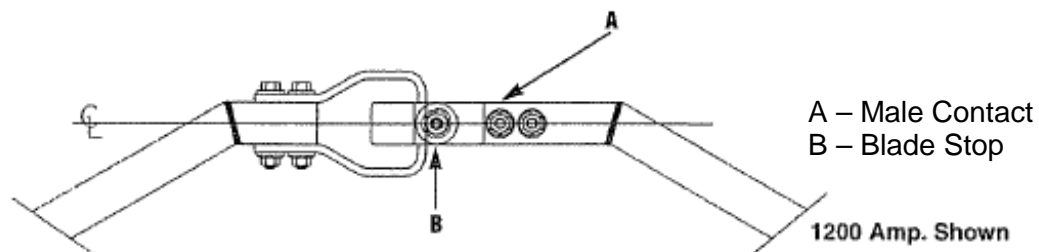

Figure 2: Contact Assembly
4. Test each switch pole for free operation and blade alignment. When closed, the blades should be in a straight line with the bearing stops touching (**Figure 2**). These stops can be adjusted if necessary.